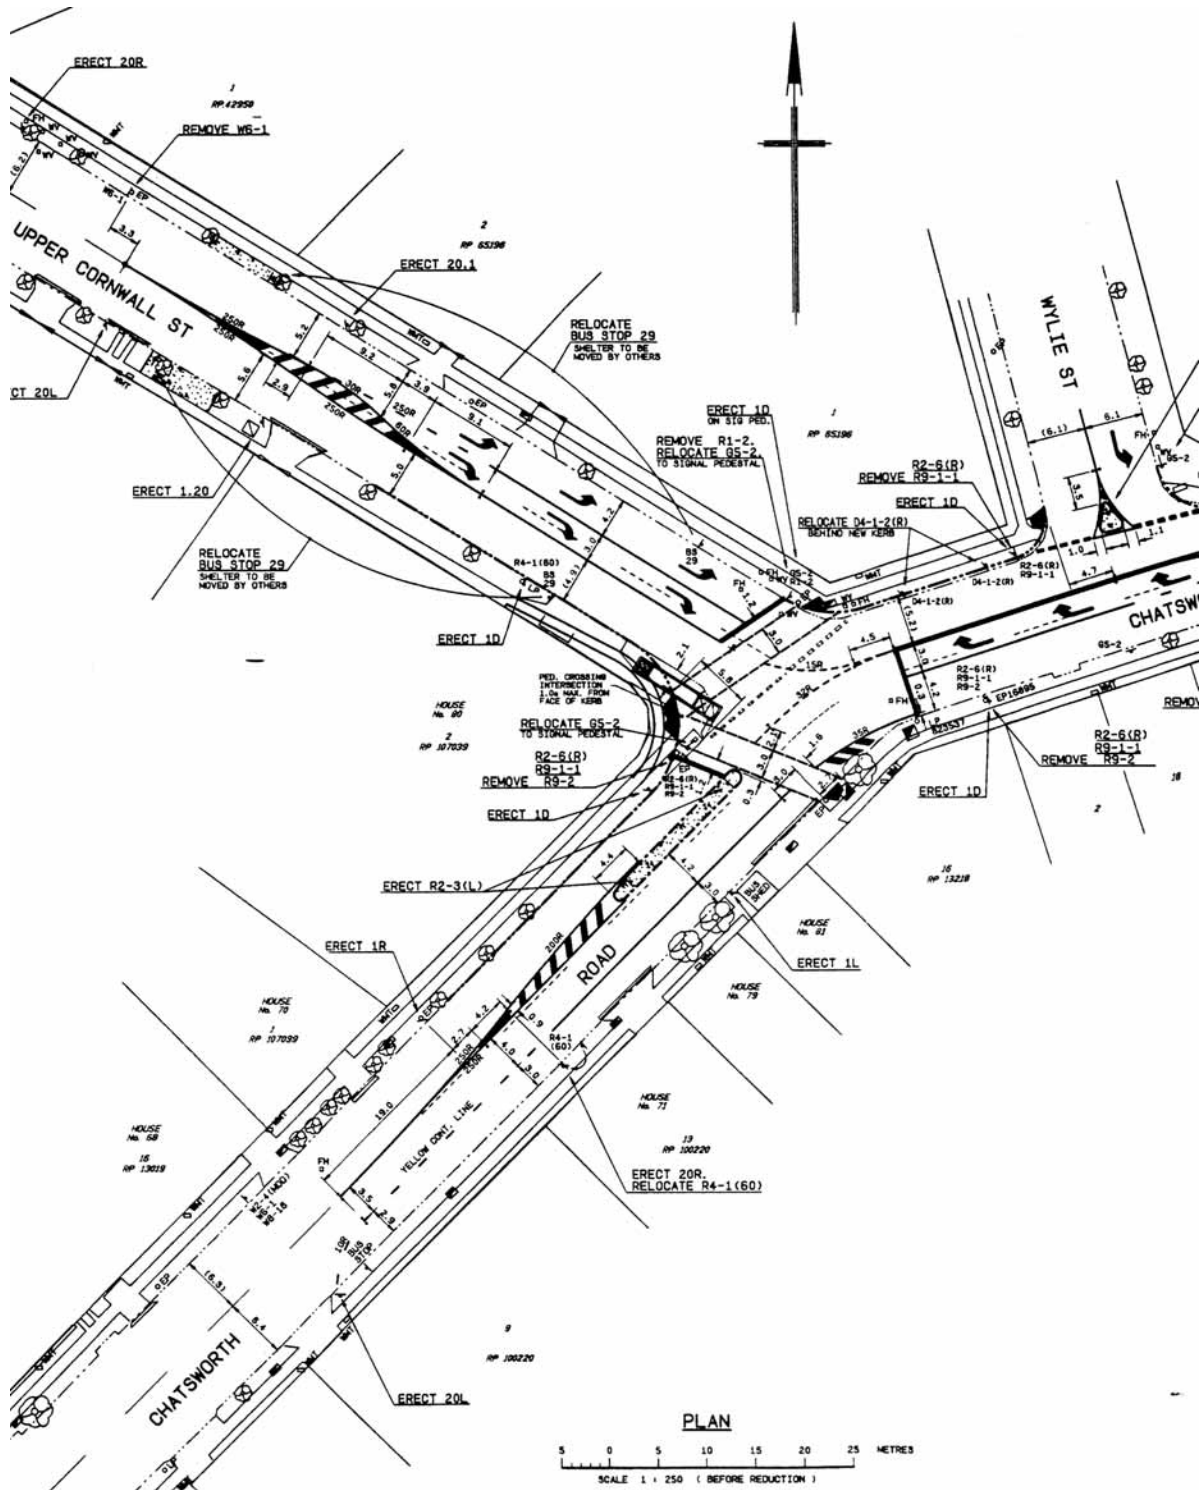

FIGURE E2.6.1
3. Pavement marking. Existing markings that will be retained and proposed markings must be fully dimensioned. Thin dashed line must be used for existing markings that will be removed. Refer typical example given in Figure E2.6.1.
4. Signs eg parking signs, street name signs, etc. Proposed traffic signs must be shown using the standard sign code eg ERECT R2-14(L) and not shown as pictorial signs. Refer typical example given in Figure E2.6.1.